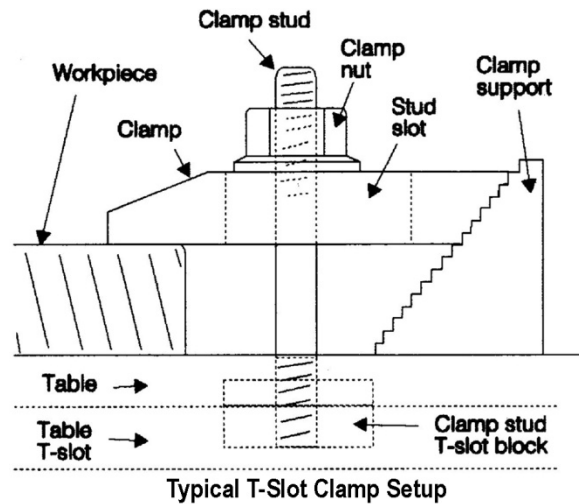

Figure 9
3. Clamp work piece using T-slot clamps, studs, and step blocks as required (Figure 9).